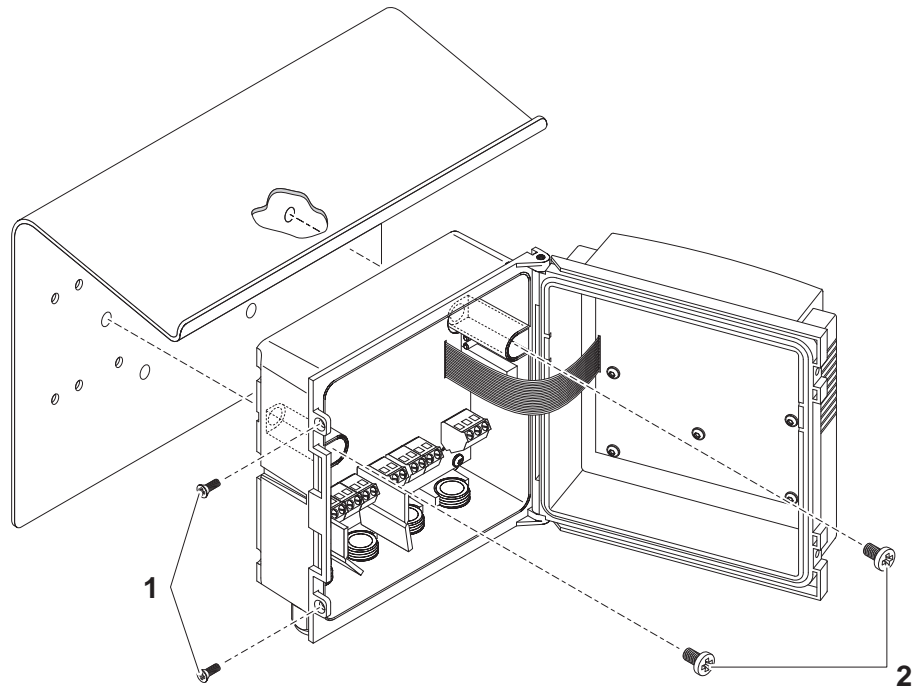

Fig. 3-18 Mounting the Universal Transmitter with the SD/K 170 sun shield
1	Remove the two countersunk screws (pos. 1 in Fig. 3-18) and swing open the module lid.
2	Position the Universal Transmitter on the sun shield and fix it into place with the two screws (pos. 2 in Fig. 3-18).
- 3 Close the lid and fix it with the two countersunk screws (pos. 1 in Fig. 3-18).